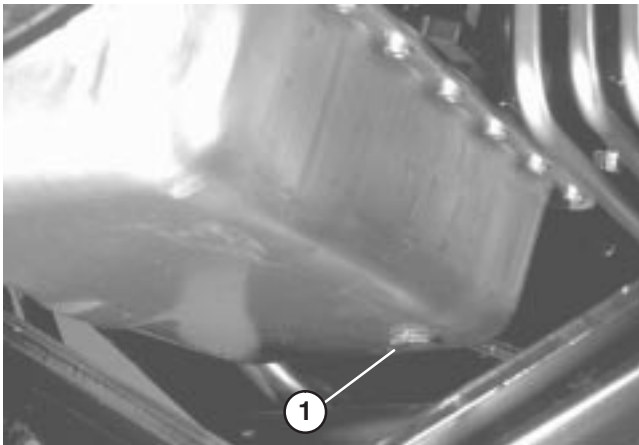

Figure 41
ENGINE OIL AND FILTER (Fig. 41–42)
1. Remove drain plug (Fig. 41) and let oil flow into drain pan. When oil stops, install drain plug and new plug seal, Part No. 74–7850.